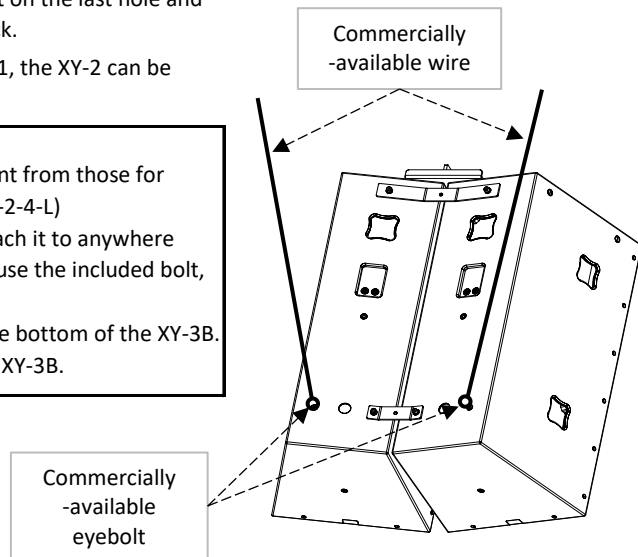

Fig.3-2-4-L
- (4) Ensure the two commercially-available eyebolt are secured to mounting point on the top of each enclosure to suspend it with wire as a secondary safety feature. (Fig.3-2-4-M)